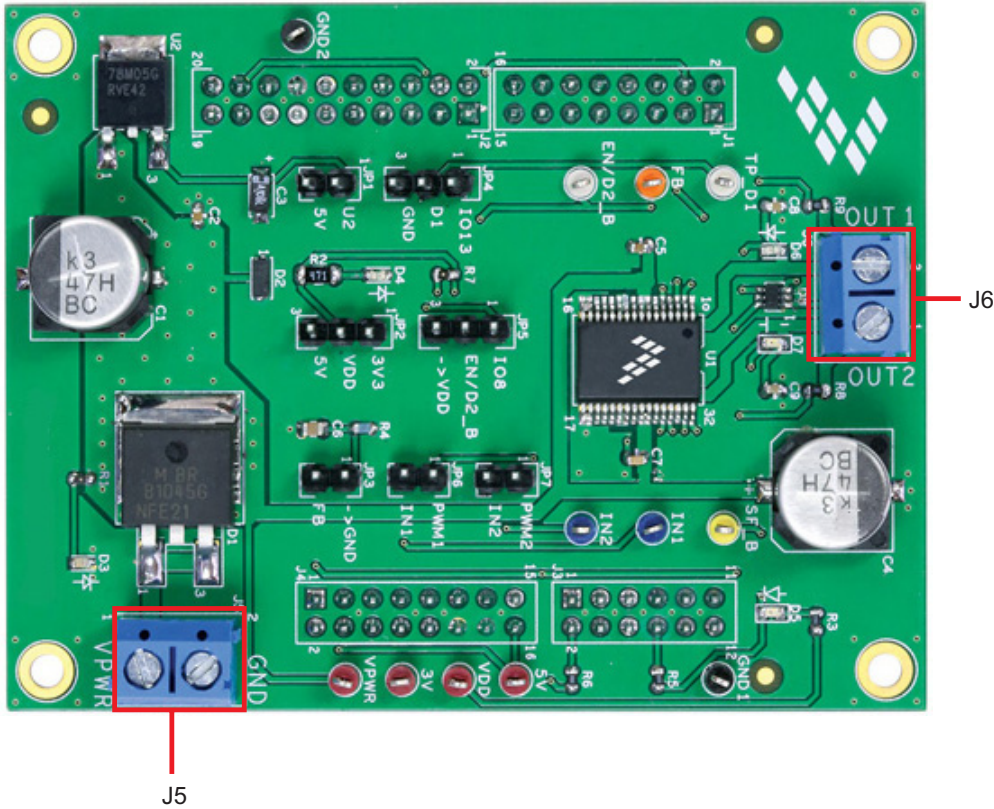

Figure 10. Screw Terminal Connectors
The board has following screw terminal connections to connect the power supply and the load. Figure 10 shows the location of the screw terminal connectors.
2. With the power switched off, attach the DC power supply to the VPWR and GND screw connector terminals on the evaluation board (J5 in Figure 10).